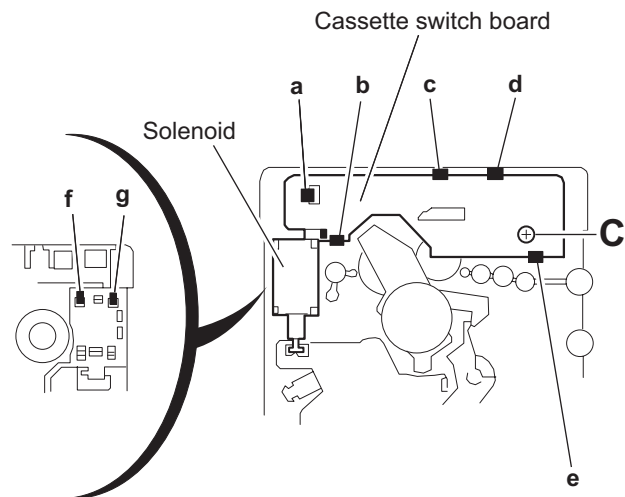

Fig.10
3.4.5 Removing the cassette switch board and solenoid (See Fig.10)
- (1) From the front side of the cassette mechanism, remove the slit washers attaching the capstan shaft **L** and **R**. Pull out the flywheels backward.
3.5.5 Removing the reel pulse board and solenoid (See Fig.10)